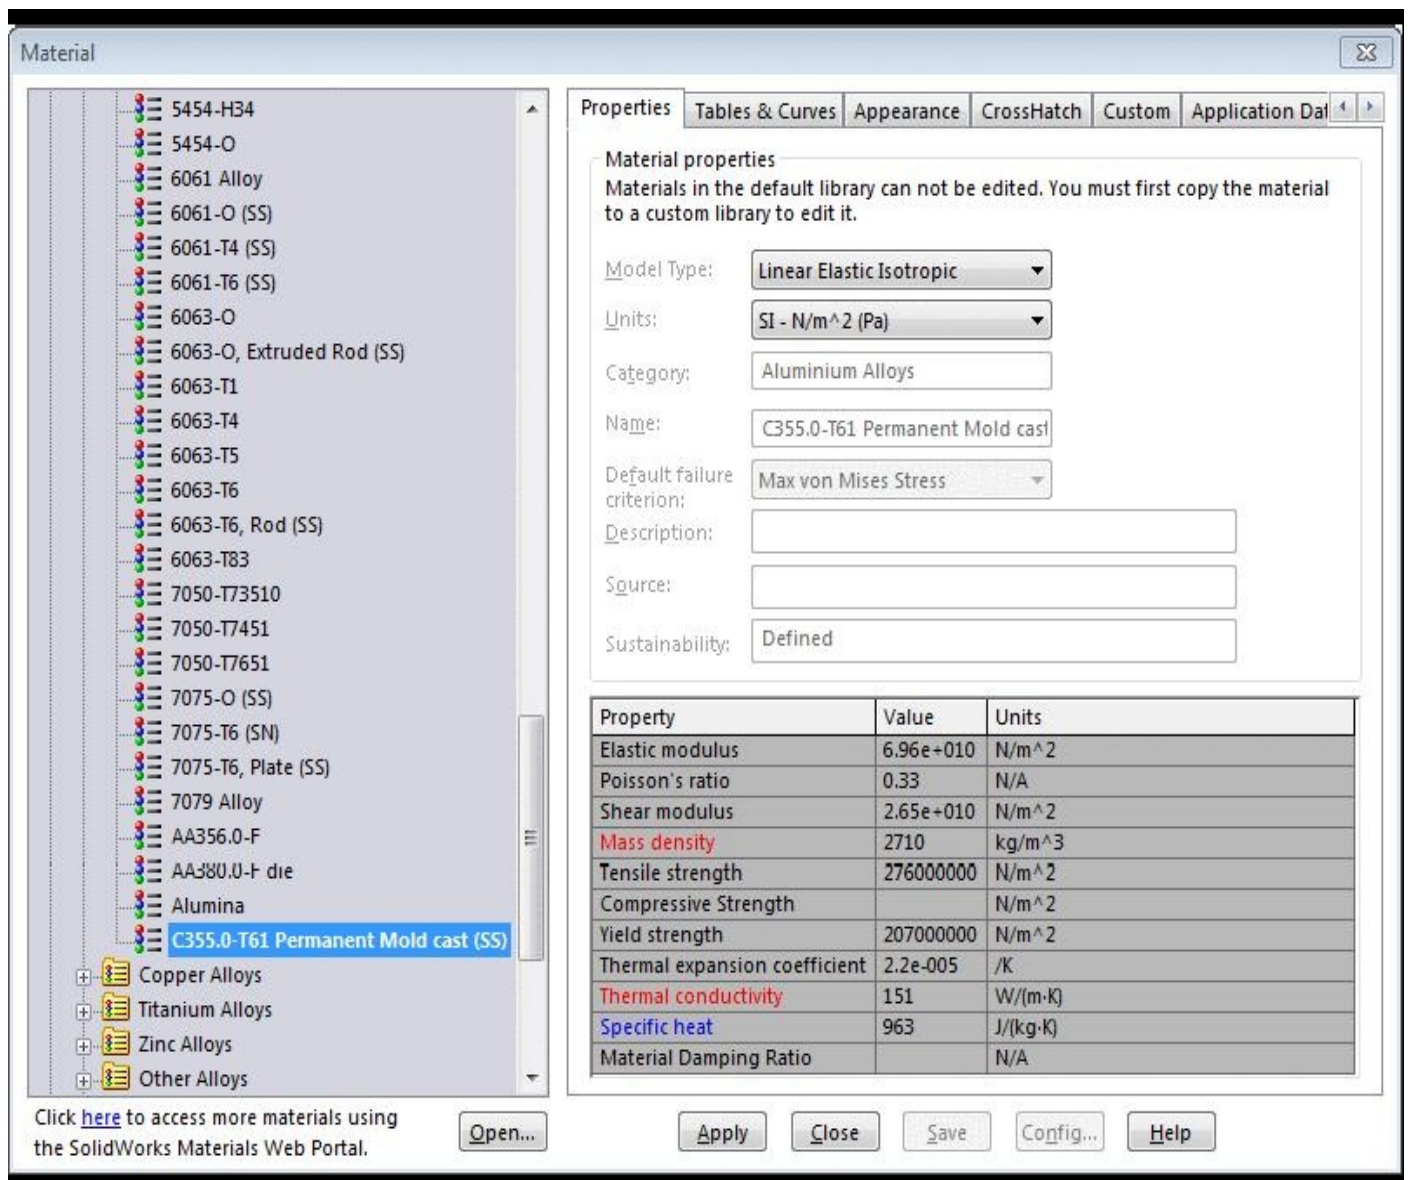

Figure-13. Material dialog box
- Browse through the materials and select the **C355.0-T61 Permanent Mold cast (SS)** material; refer to Figure-13.